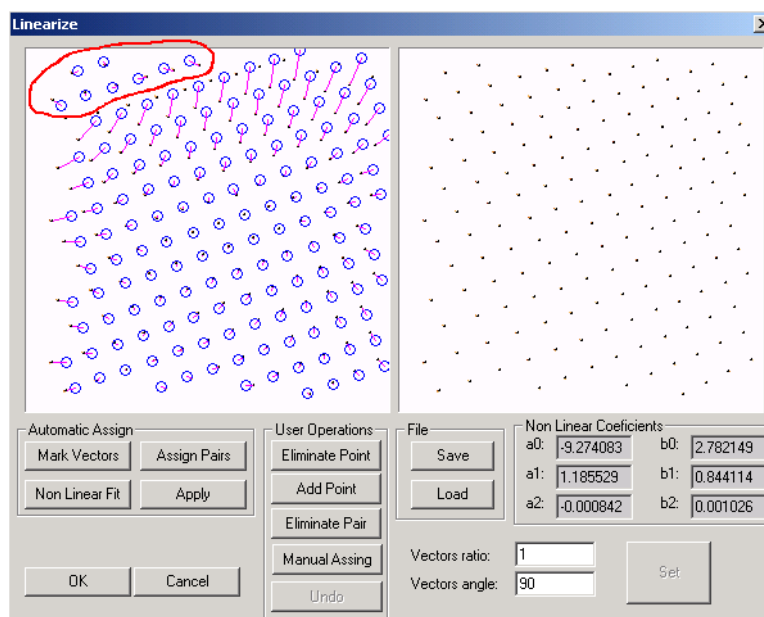

Figure 4
- Press onto **Assign Pairs** and the program will suggest a set of relations between real net points and ideal net points. Some of these assignments could be wrong, like shown in Figure 4. Take a look to find these wrong assignments and eliminate them using the **Eliminate pair** and clicking on the wrong point (not in the circle).